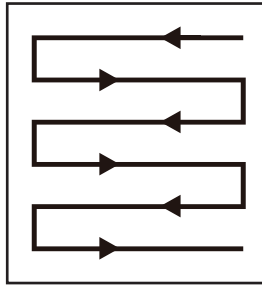

Fig. 12
4. Slowly push the product forward. Always stand behind the lawnmower and hold the handle(1) with both hands to operate it.
5. Mow in slightly overlapping rows. The most effective pattern for mowing lawns is straight lines along one of the sides. This will keep the rows even and ensures that all the lawn is cut without missing any spots (Fig. 12).